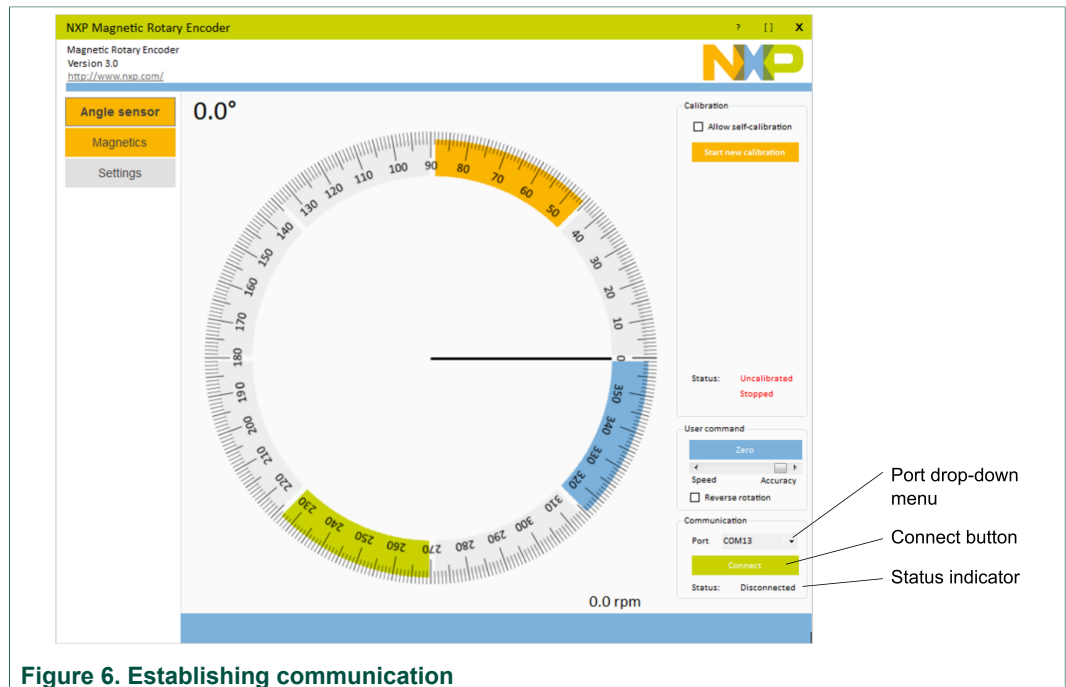

Figure 6. Establishing communication
2. Click the **Angle sensor** button. See Figure 6.